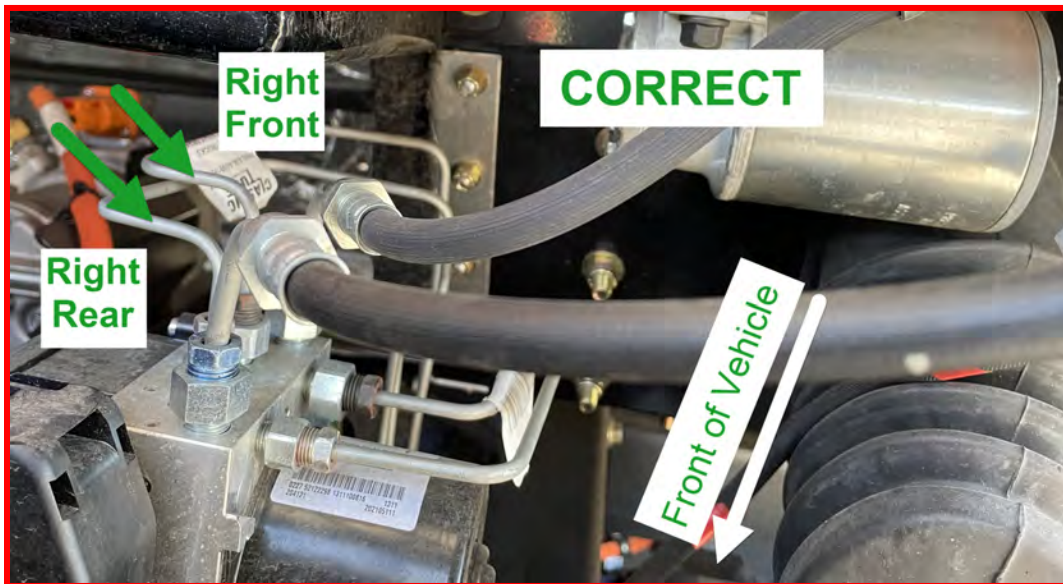

Figure 8 - CORRECT Brake Line Routing (Right Front & Right Rear)
- b. Brake line routing in the opposite direction of the hydraulic brake assist motor (Figure 8) does not require replacement.